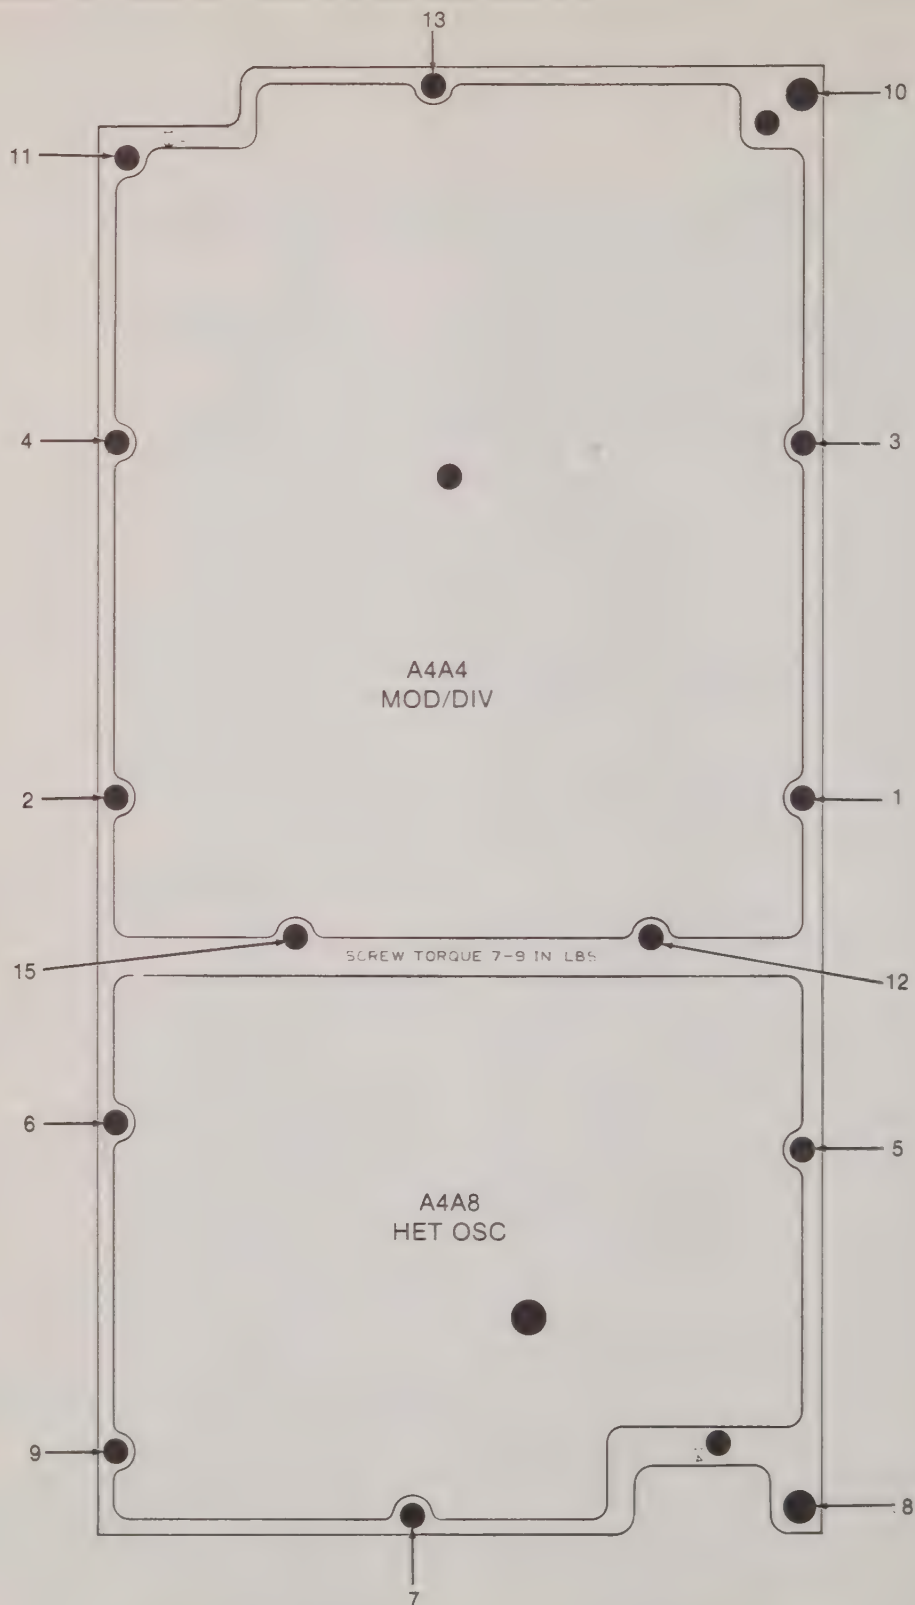

Figure 3-14. Torque Sequence, A4A4, A4A8, Top of Output Module
- a. Torque all screws to 3 inch-pounds in the numerical sequence shown in Figure 3-14.
- b. Torque all screws 7 to 9 inch-pounds in the numerical sequence shown in Figure 3-14. The torque value should be the same for all screws.